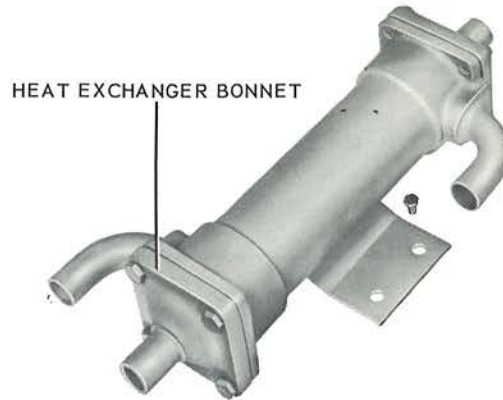

FIGURE 38 HEAT EXCHANGER
b. Remove the HEAT EXCHANGER BONNET, figure 38, from the intake side and inspect the heat exchanger for obstruction. If the tubes are clogged, remove the other bonnet and use a wire or rod to remove the obstruction.